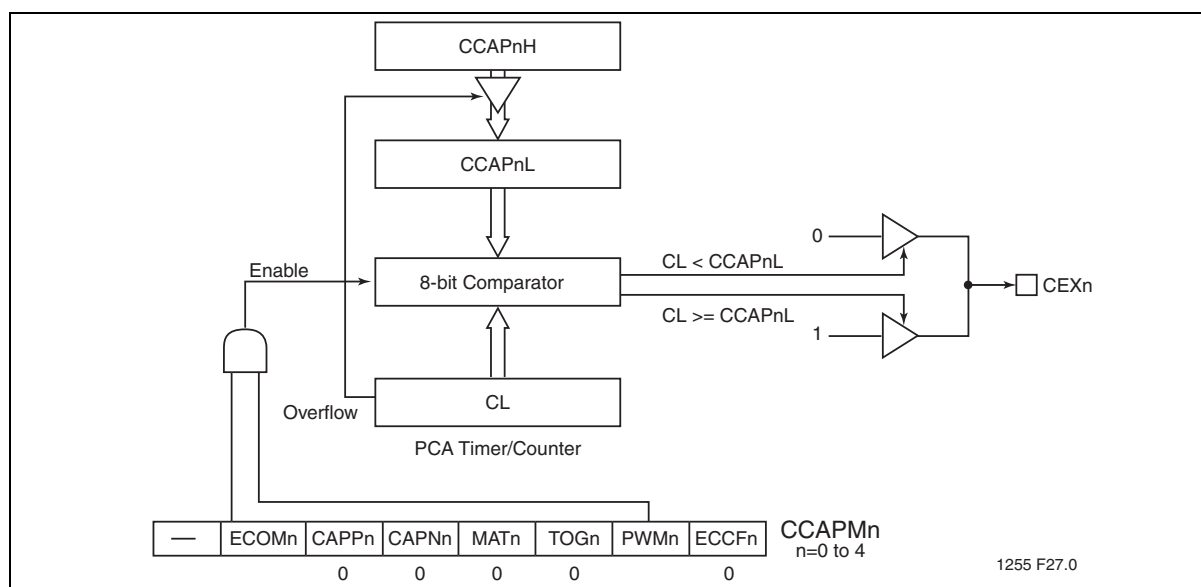

**Figure 28:**PCA Pulse Width Modulator Mode
The Pulse Width Modulator (PWM) mode is used to generate 8-bit PWMs by comparing the low byte of the PCA timer (CL) with the low byte of the compare register (CCAPnL). When  $CL < CCAPnL$  the output is low. When  $CL \geq CCAPnL$  the output is high. To activate this mode, the user must set the PWM and ECOM bits in the module's CCAPMn SFR. (See Figure 28 and Table 23)